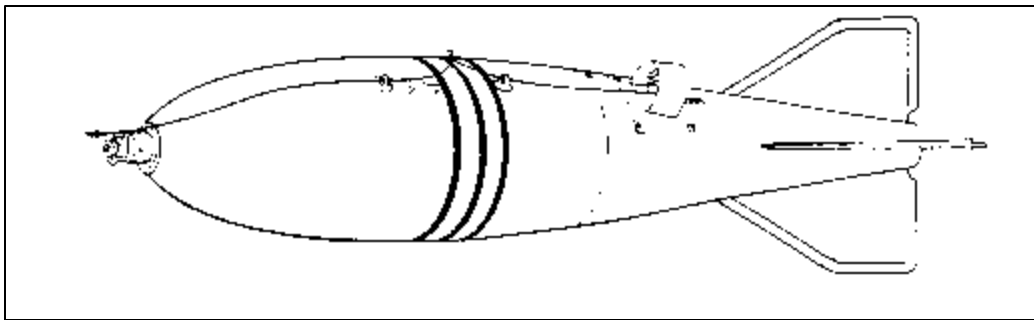

Figure 20. U.S. chemical (gas) bomb, 750-lb. MC1 GB.
- (5) Chemical (gas) bombs usually resemble GP or LC bombs in external appearance, as shown in Figure 20. They may or may not have visible filler plugs, and the fuzing may be airburst or impact. This is why the color coding is very important and must be included in the unexploded ordnance (UXO) incident report. For example, the U.S./NATO color code for toxic chemical munitions is gray with green markings and a yellow band if the bomb has an explosive burster. The former Soviet republic forces use a dark gray background on all bombs, with a combination of green, yellow, red, and blue to indicate chemical agents. The soldier must never approach a suspected gas bomb. Stay upwind from the munition and use binoculars for identification, because it may be ruptured and leaking toxic agent.